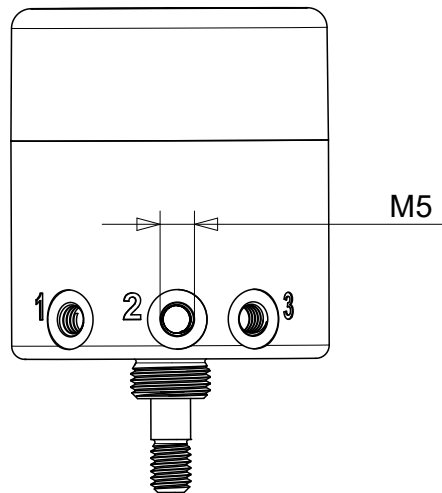

Fig. 4: Pneumatic connection of SK-i.310
- Connect supply air port 1 (⇒ Fig. 4) with the compressed air supply system available on site.
- Connect actuator port 2 (⇒ Fig. 4) with the control air port of the pneumatic actuator.
- Optional: Replace the silencer in threaded port 3 (⇒ Fig. 4) with a tube connector if the exhaust air is to be released via an exhaust line.